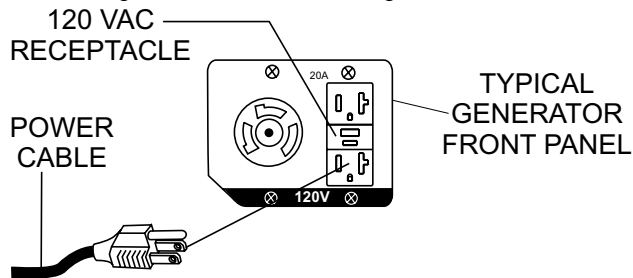

Figure 13. Connecting to Power Source
1. Connect the AC power cable to the 120 VAC receptacle on the generator used. See Figure 13.